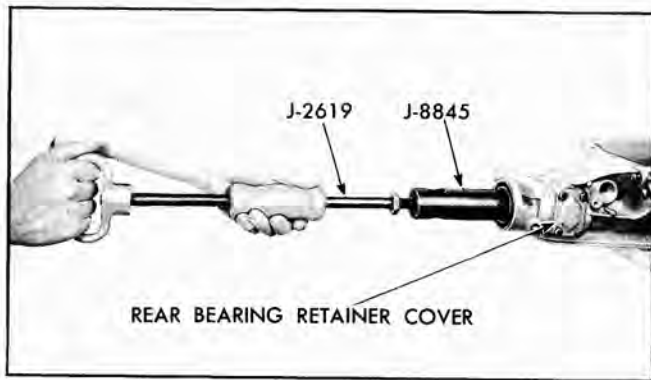

Fig. 48 Removing Rear Seal
b. Remove the rear seal and the bushing and sleeve assembly from the rear bearing retainer. Use tool J-8845 and J-2619 slide hammer, or large drift (Fig. 48).
5. Remove the rear bearing retainer cover and gasket by removing four (4) rear bearing retainer cover attaching bolts (Fig. 48).